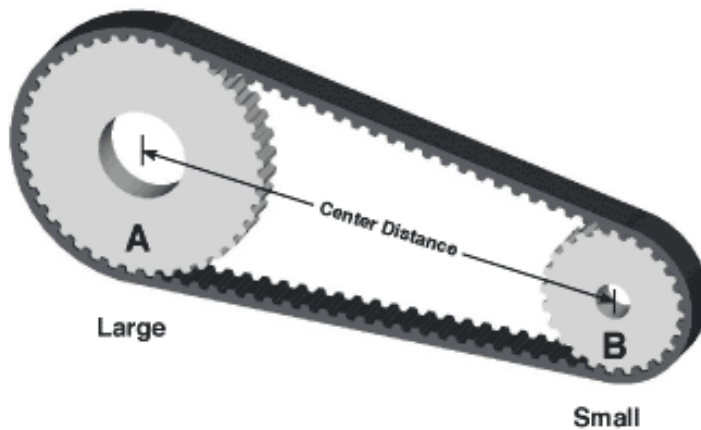

Figure Q2a.
- a) An X-Y pick and place gantry unit has its X-axis drive implemented utilising a stepper motor connected to the load via a 5mm pitch toothed belt and two pulleys, as shown in Figure Q2a. Pulley A has a pitch circle diameter of 26.74mm with 28 teeth, and pulley B has a pitch circle diameter of 13.37mm with 14 teeth. The centre distance is 200mm.